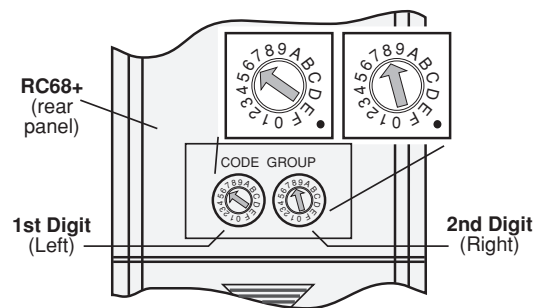

FIG. 4 Setting the code switches (68 shown for the ZPR68)
- Using a small blade screwdriver, rotate the two Code Group setting switches on the rear of the RC68+ (see Fig. 4) to the Code Group number noted from the previous chart. The Left switch is the first digit in the number and the Right switch is the second digit.
- The Xantech model should now respond to the RC68+ commands that relate to that device (i.e., volume up/down, input selection, etc.). Fig. 4 shows the switches set to 68, the Code Group number for the ZPR68.